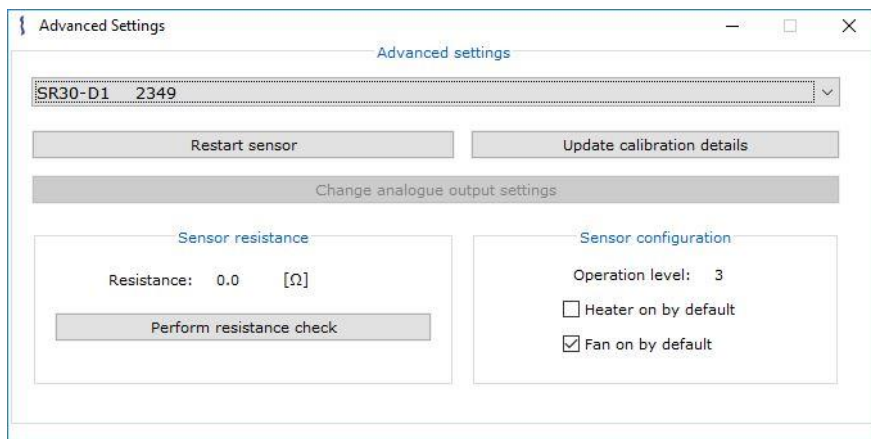

Figure 4.3.2.1 *Advanced settings window for an SR30-D1*
- 1) Click the "Advanced settings" button in the top menu bar. This opens the "Advanced settings" window (see Figure 4.3.2.1).